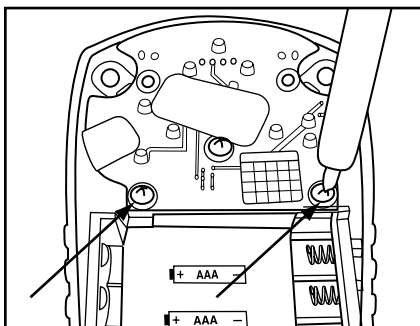

Fig. 36
3. Undo the two screws that retain the sensor pack – retain these screws (Fig. 36).